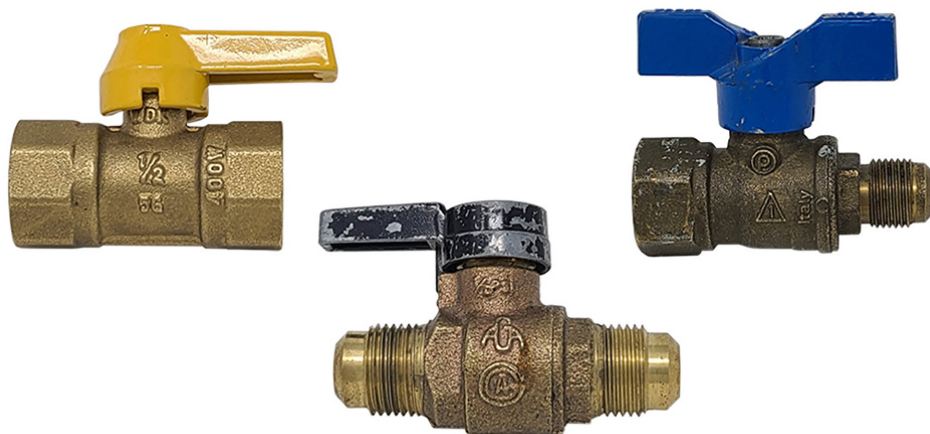

Figure 6. Ball valve end connections
Ball valves are available with various handle styles and colours. Gas valve are available with different types of handle including steel, aluminum or wing handles (Figure 6). While gas valve handles are often coloured yellow, you will also find gas rated ball valves in other colours such as red, blue and green. Some handles are designed so they can be used to lock the valve position, by removing and reinstalling the handle so the notch holds the valve in the closed locked position.
Brass ball valves under NPS 2" are most commonly supplied with internal threads (FNPT) or male flared end connections, or a combination of both (Figure 6).
- Figure 6. “Ball valve end connections” by Rod Lidstone is licensed under a CC BY-NC-SA licence.